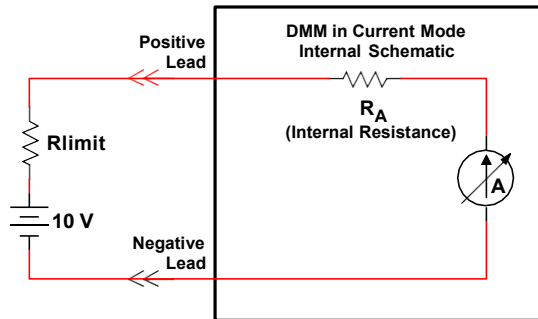

Figure 2.1 – Experimental Setup without Load
1. **Set up** the circuit in **Figure 2.1**, attaching the DMM to measure the current through  $R_{LIMIT}$ .
2. **Calculate** a value for resistor  $R_{LIMIT}$  in **Figure 2.1** using Ohm's law. The goal is to let **only** 50mA flow into the DMM. **Assume**  $R_A$  is  $0\Omega$  for this calculation.